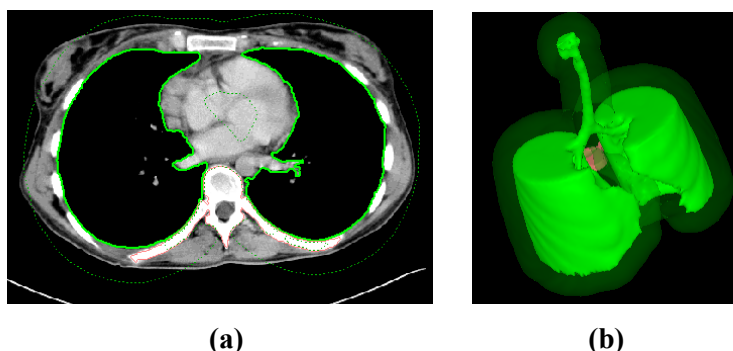

Figure 257 – Created ROI margin in 2D (a), in 3D (b)
- Click the **Calculate** button. The created margin will be displayed as a dashed line (see Figure 257).